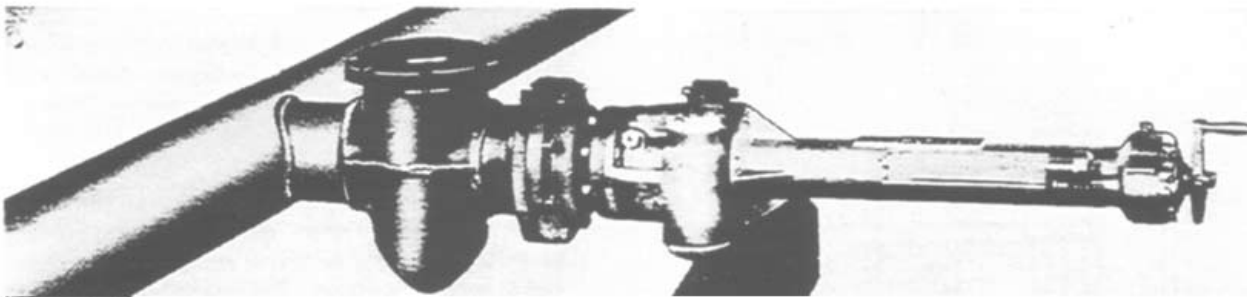

FIGURE 30
- a. If using H-17252 or H-17253 fitting, attach the proper size companion flange to the outlet end of the fitting and bolt the adapter solidly to it. **Figure 30**. Tack weld the companion flange or block the drilling machine to prevent the companion flange from unscrewing.